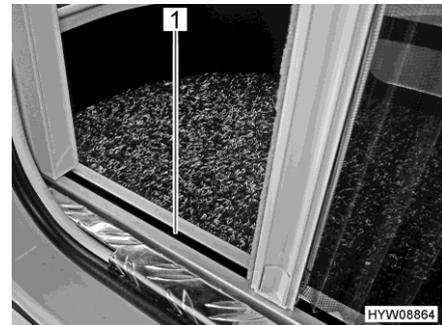

Fig. 41 Insect screen (bottom guide)
- ▷ Hold holding bar with both hands when closing or opening. This reduces the risk of the insect screen getting stuck in the guides (Fig. 41,1).